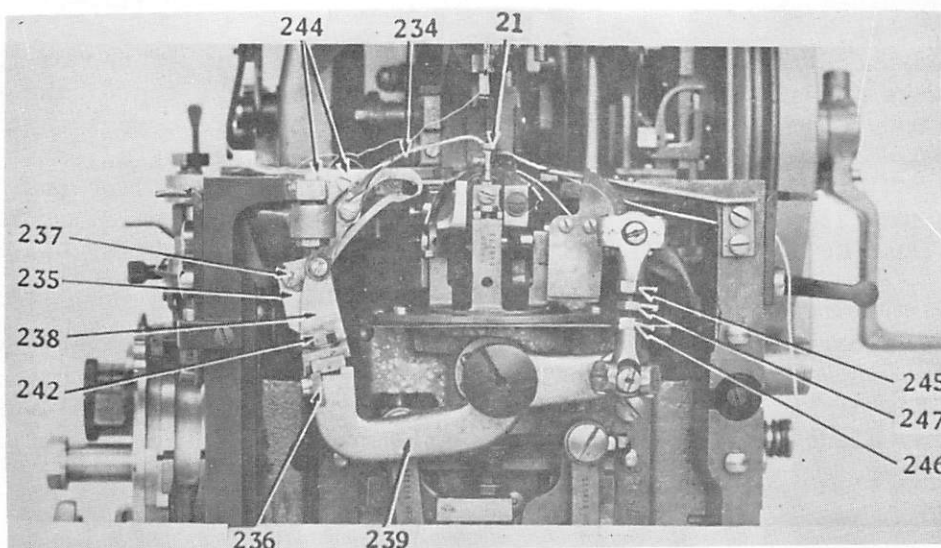
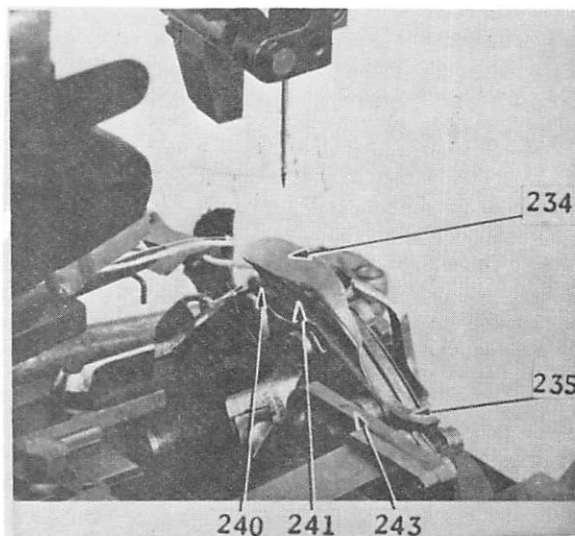

Fig. 44 Adjustments on Under Thread and Cord Trimming Mechanism
Fig. 45 Showing Under Thread and Cord Trimmer
Lower Trimmer Adjustment (See Fig. 44)
The movable cutting blade (240, Fig. 45) and the stationary cutting blade (241, Fig. 45) should be set longitudinally to trim close to the end of sewing. These cutting blades are mounted on the cutting blade bracket (235, Fig. 45) and are adjustable longitudinally to the extent that the rear edge of the cutting blade guard (234, Fig. 45) does not lie beyond the rear edge of the opening in the work clamp plate and in its adjustment to the front of the machine, the stationary cutting blade (241) does not strike the throat plate (21, Fig. 44).
Place machine with cutting blades in cutting position and slide the cutting blade bracket (235) in or out, as required, and securely tighten screw (242, Fig. 44). This foregoing adjustment may be made at will if cutting blade cam (243, Fig. 45) remains at its basic setting as made at the factory. Should this setting be disturbed, adjust the cutting blades to longest trimming position and then ascertain that the stud in the heel of the movable cutting blade projects no more nor less than the full depth through the slot of the cutting blade cam (243).
To set the height of trimmer. The cutting blades and cutting blade guard (234) are so arranged that they swing on the same hinge screw. The proper setting for this unit is, when the trimmer is advanced to sever the threads and cord, the forward end of the cutting blade guard (234) must have an equal clearance over the top of the throat plate (21), and under the lower surface of the work clamp plate covers that are mounted on the work clamp plates. This setting can be obtained by adjusting the screw (237, Fig. 44), raise or lower point of stationary cutting blade and cutting blade guard (234) as required and securely refasten screw (237). This same adjustment must be followed when replacing the stationary cutting blade (241).
The thread and cord cutting blades should be adjusted so that when they close, the cutting edges fully pass each other to ensure severing the threads and cord. To make this adjustment, loosen the two screws (244, Fig. 44) which fasten the cutting blade cam (243) and swing cam downward to cause the cutting blades to close more, or upward to close less, then securely tighten two screws (244).
To adjust the trimmer to move further forward across the path of the threads and cord, loosen the two nuts (245 and 246, Fig. 44) and turn the adjusting screw (247, Fig. 44) to the right. To adjust the trimmer to move further backward away from the path of the threads and cord, turn the adjusting screw (247) to the left. Care must be taken to see that the thread cutting blades are not thrown so far forward as to cause the stud in the heel of movable blade to strike the end of the slot in the cutting blade cam (243). Then securely tighten the two nuts (245 and 246).